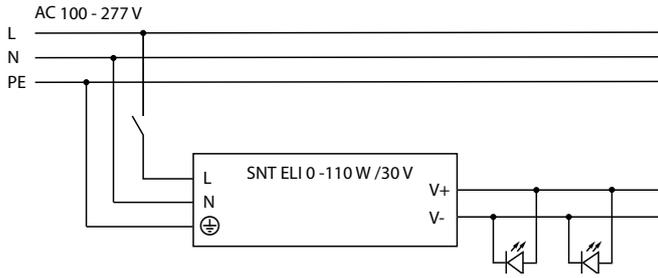

Figure 4: Wiring diagram
- Connection according to Figure 4